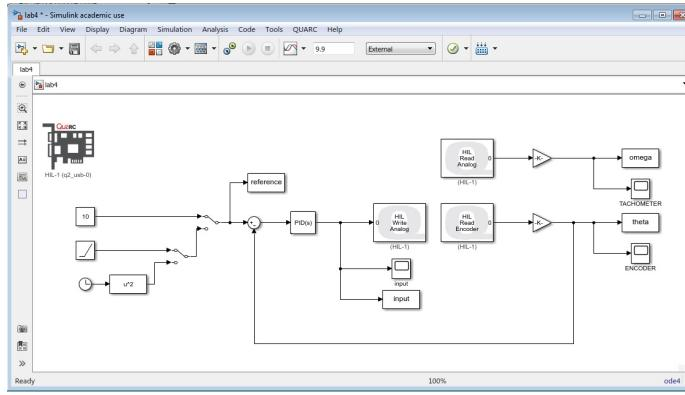

Figure 6.3: Simulink model for a DC Servo Motor system
3. Assemble (or modify an existing) a Simulink model according to Figure 6.3.